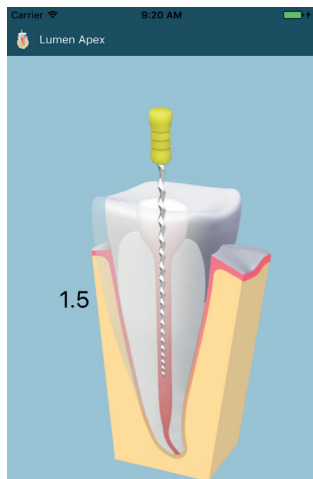

Fig. 5
7. Slowly insert the endodontic file (9) into the root canal. When the end of the file is approximately 2,0 mm or less from the apical constriction, you will see numbers appearing on the root canal model (Fig. 5). You will also hear a slow beeping signal.